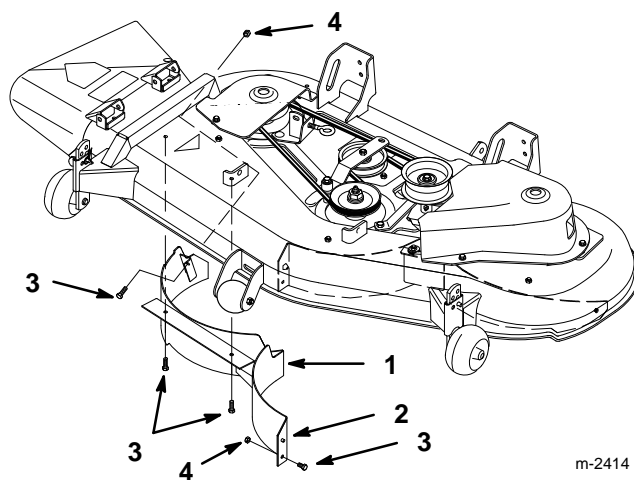

Figure 17
2. Remove lock nuts from top and discharge side and center flange of mower (Fig. 17). Slide baffle into discharge opening and raise into mower so pin on center flange engages left baffle.
3. Secure with previously removed 5/16–5/8" (16 mm) bolts and 5/16" lock nuts in top, discharge side and center flange holes of baffle (Fig. 17).